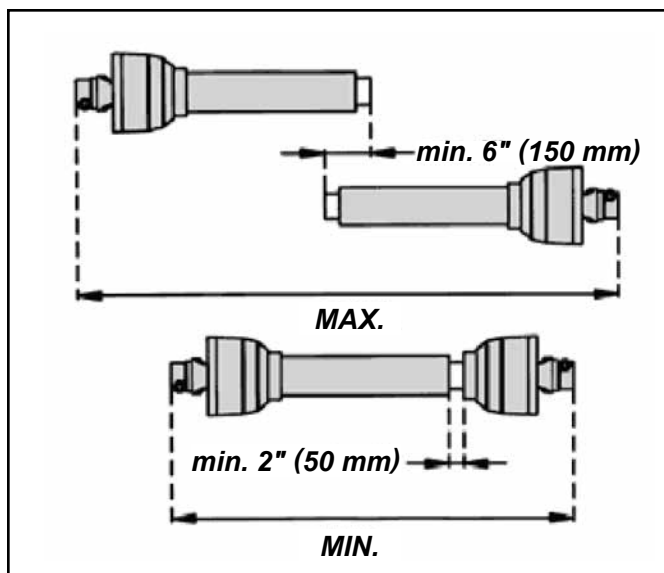

Figure 15. Example of Overlap
- 3. On a flat, level surface, slowly raise and lower the post hole digger while closely watching the driveline to see if it separates, binds, or bottoms out. With the 3-point arms fully raised, measure driveline overlap and verify there is a minimum of 6" (150 mm) overlap of driveline telescoping members. See Figure 15.
- 4. Lower 3-point arms until gearbox output shaft or gearbox output guard contacts the ground. With the gearbox on the ground, measure the overlap of the driveline. Verify there is a minimum of 2" (50 mm) of travel left before the driveline will bottom out. See Figure 15.
4. Hold the two halves parallel to one another to determine how much the driveline must be shortened. Mark each end. See Figure 15.